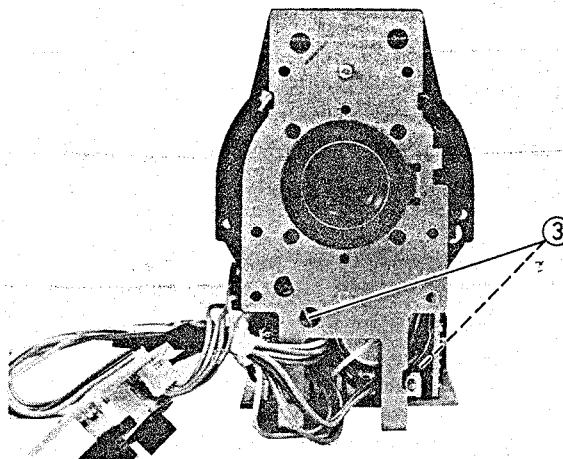

Fig. 2-133 Zoom Motor Removal
Zoom Motor Removal (Fig. 2-133)
3. Remove two (2) screws holding the zoom motor. (See Fig. 2-133)